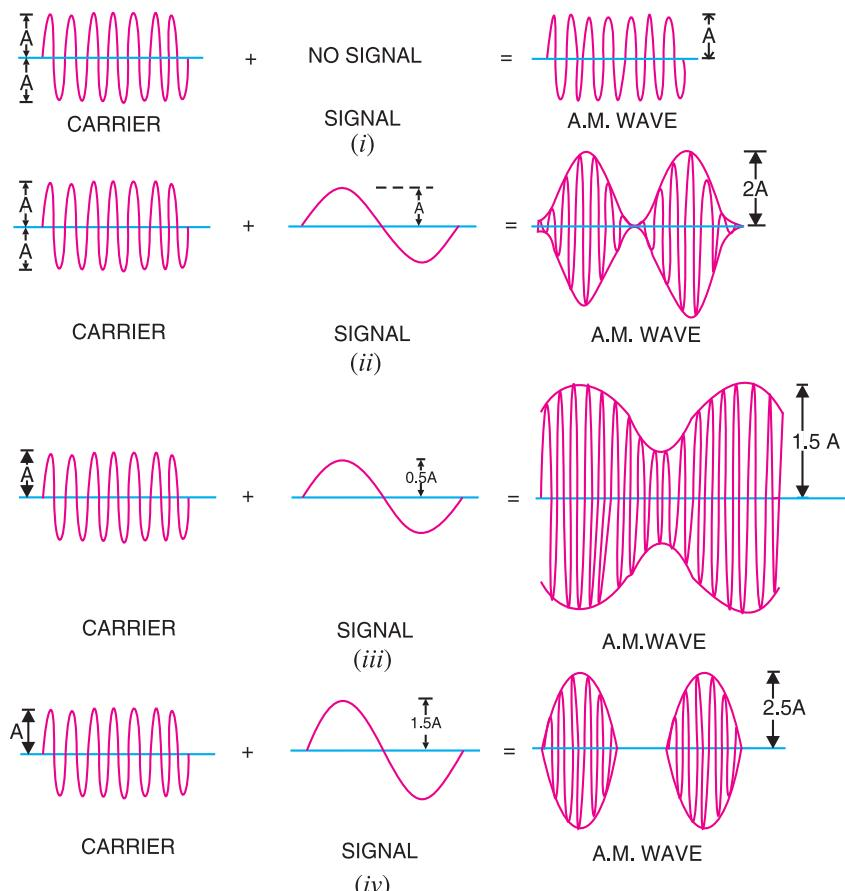

Fig. 16.3
The value of modulation factor depends upon the amplitudes of carrier and signal. Fig. 16.3 shows amplitude modulation for different values of modulation factor m.
- (i) When signal amplitude is zero, the carrier wave is not modulated as shown in Fig. 16.3 (i). The amplitude of carrier wave remains unchanged.
(ii) When signal amplitude is equal to the carrier amplitude as shown in Fig. 16.3 (ii), the amplitude of carrier varies between $2A$ and zero.
(iii) When the signal amplitude is one-half the carrier amplitude as shown in Fig. 16.3 (iii), the amplitude of carrier wave varies between $1.5A$ and $0.5A$.
(iv) When the signal amplitude is 1.5 times the carrier amplitude as shown in Fig. 16.3 (iv), the maximum value of carrier wave becomes $2.5A$.
Importance of modulation factor. Modulation factor is very important since it determines the strength and quality of the transmitted signal. In an AM wave, the signal is contained in the variations of the carrier amplitude. When the carrier is modulated to a small degree (*i.e.* small m), the amount of carrier amplitude variation is small. Consequently, the audio signal being transmitted will not be very strong. The greater the degree of modulation (*i.e.* m), the stronger and clearer will be the audio signal. It may be emphasised here that if the carrier is overmodulated (*i.e.* $m > 1$), distortion will occur during reception. This condition is shown in Fig. 16.3 (iv). The AM waveform is clipped and the envelope is discontinuous. Therefore, degree of modulation should never exceed 100%.